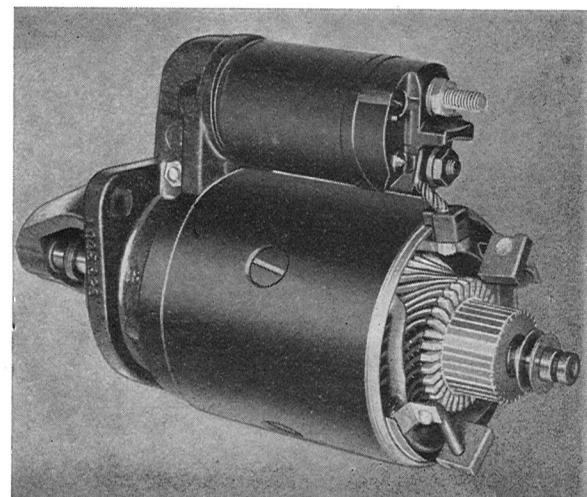

Fig. 3-82. Starter motor with brush bridge removed
8. Install the washers on the armature shaft as shown in Fig. 3-82.